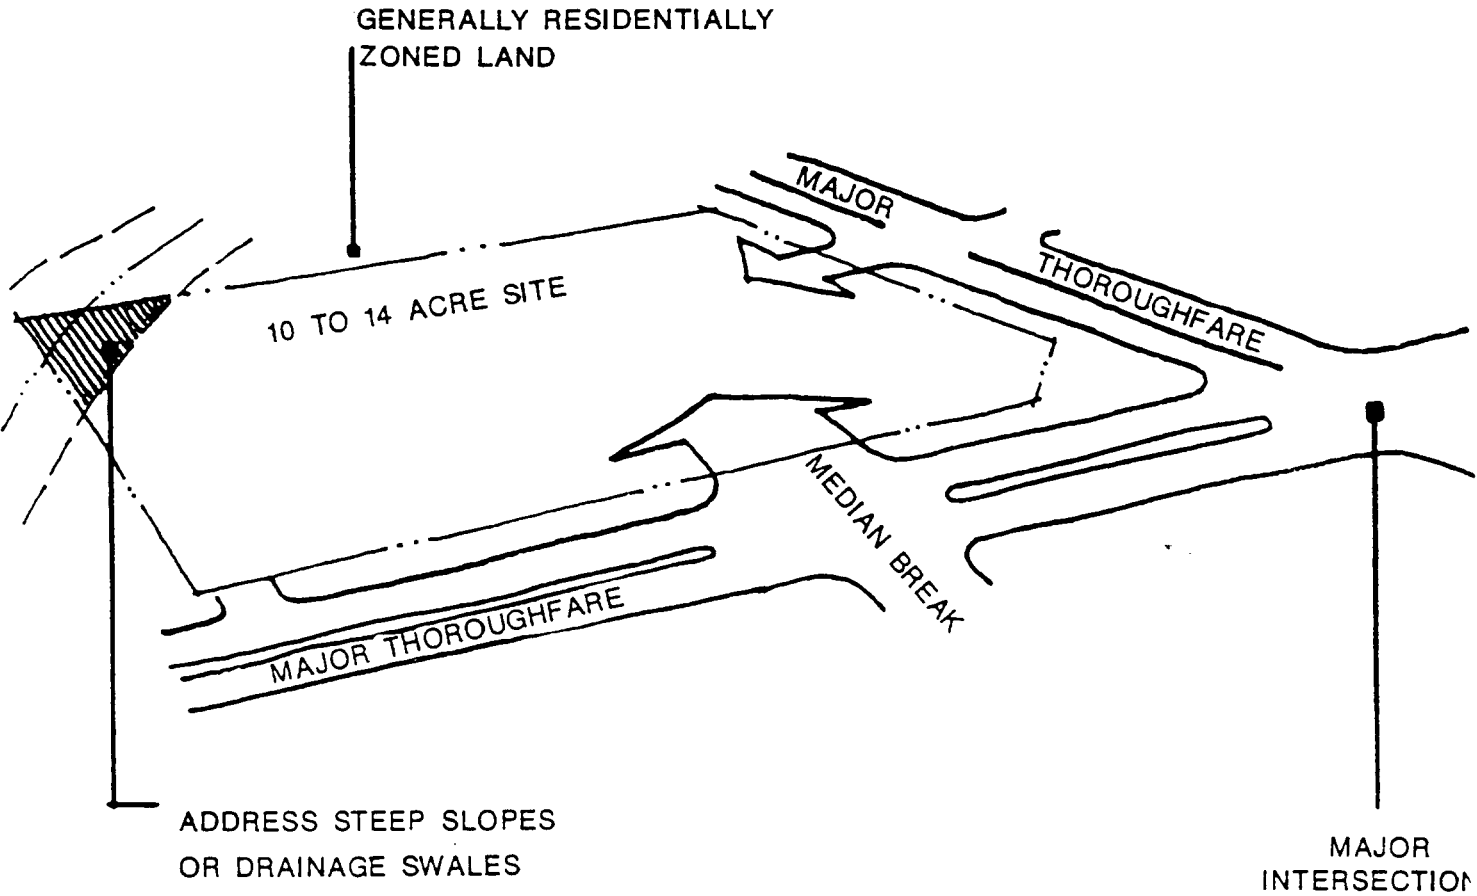

FIGURE 1
- Retail centers should typically be located at the corner of two major thoroughfares. (See Figure 1).